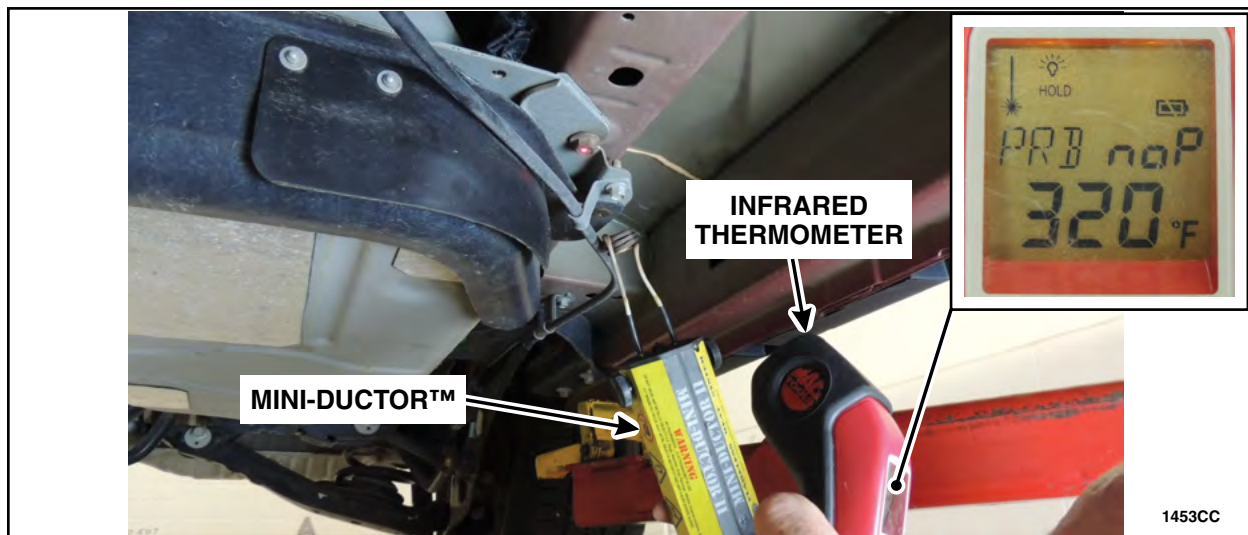

FIGURE 5
- a. Using a Mini-Ductor™ or equivalent and infrared thermometer, heat the corner attaching bolts one at a time to approximately 160°C (320°F). See Figure 5.